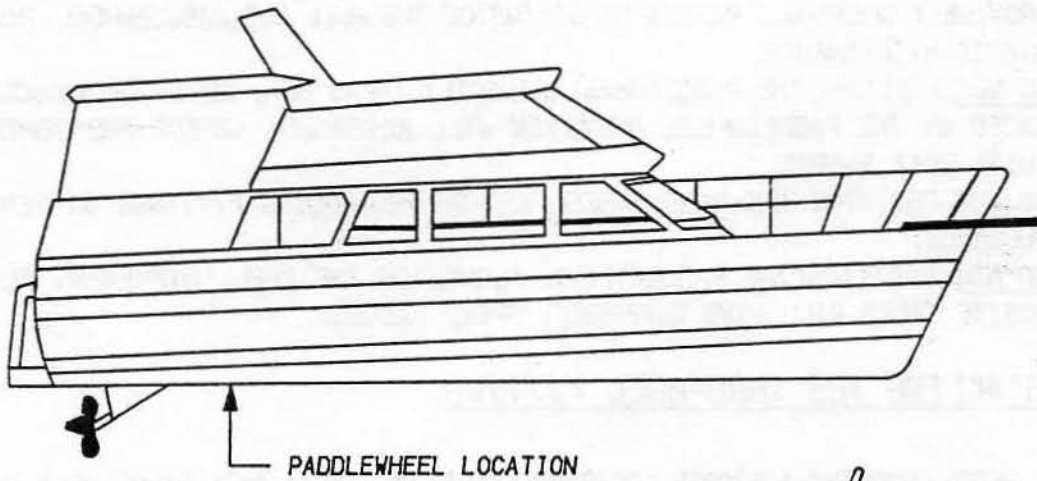

FIG. 2
4. LOOSEN THE RING CLAMP. INSTALL ON THE CASE FROM THE REAR, AS SHOWN ON FIG. 1. WITH THE INDICATOR FLANGE AGAINST THE BULKHEAD, POSITION THE CLAMP AGAINST THE REAR OF THE BULKHEAD AND TIGHTEN SCREW "A" UNTIL CLAMP IS SECURED TO THE INDICATOR. TURN THE THREE RING CLAMP SCREWS CLOCKWISE UNTIL THE INDICATOR FLANGE IS SEATED SNUGLY AGAINST THE BULKHEAD (SEE FIG. 2). DO NOT OVERTIGHTEN THE RING CLAMP.